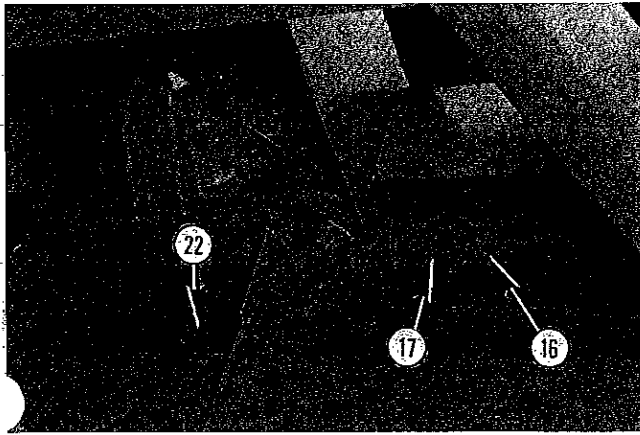

FIGURE 62
The drain plug is at reference item (22) in Figure 62.